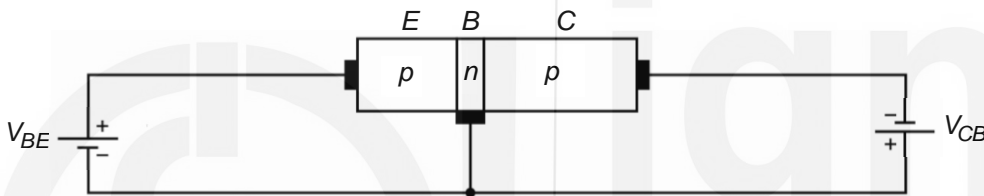

Fig. 3.18: A  $p-n-p$  transistor when the emitter-base junction is forward biased and collector-base junction is reverse biased.
2. a) Fig. 3.18 shows the labelled diagram of the biasing of the  $p-n-p$  transistor.